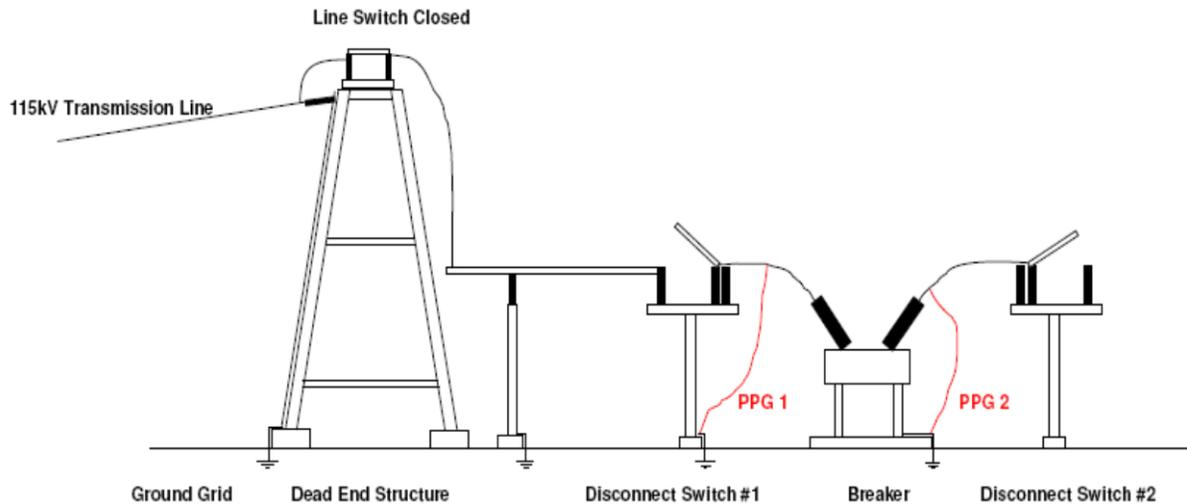

FIGURE 2
- Example 2: A substation crew is adjusting disconnect switch #2 (Figure 2). The proper placement of personal protective grounds is PPG 2. Although PPG 1 would protect the workers against accidental re-energization of the 115kV line upstream of them, PPG 1 would not be the best position to protect against induced voltages and it would violate the rule that we never depend on a breaker as part of our grounding protection plan. PPG 2 is the only choice since it is closer to the work area and is connected to the switch being worked on.